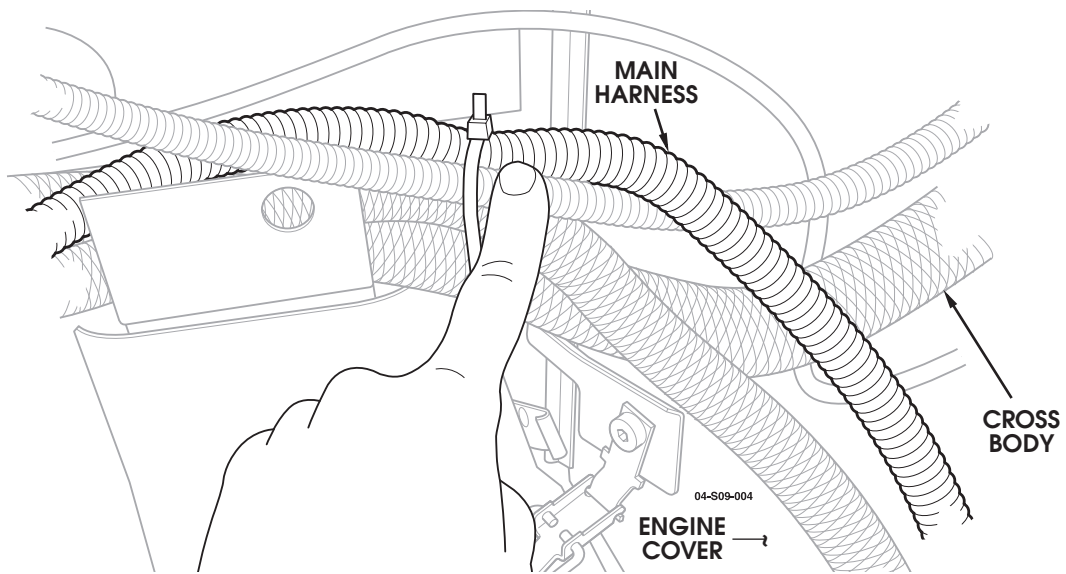

Figure 5: Main harness routing toward instrument panel area.
16. Make the connections at the control module and route the harness toward the instrument panel area along the cross-body harness (See Figure 5).